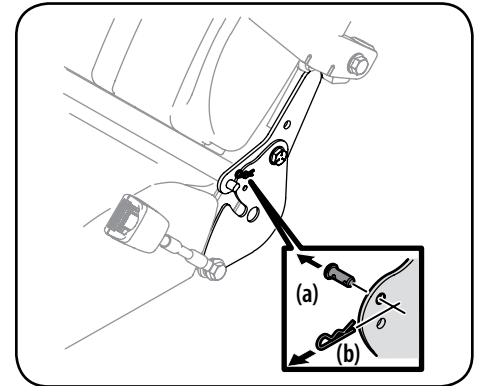

Figure 2-9
- Remove the clevis pin (a) and cotter pin (b) securing the recliner bearing plate in the seat back position. See Figure 2-9.